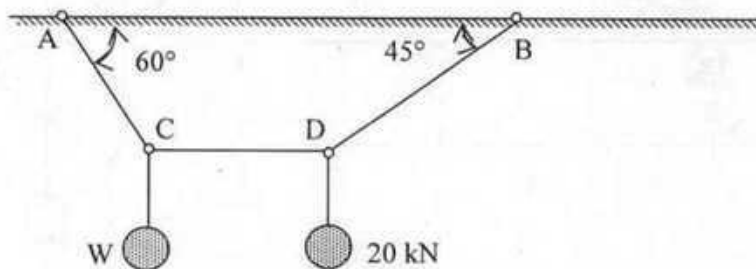

Fig :2
2. In the fig :2 below, a chord supported at A and B carries a load of 20 kN at D and a load W at C. Find the value of W so that CD remains horizontal.